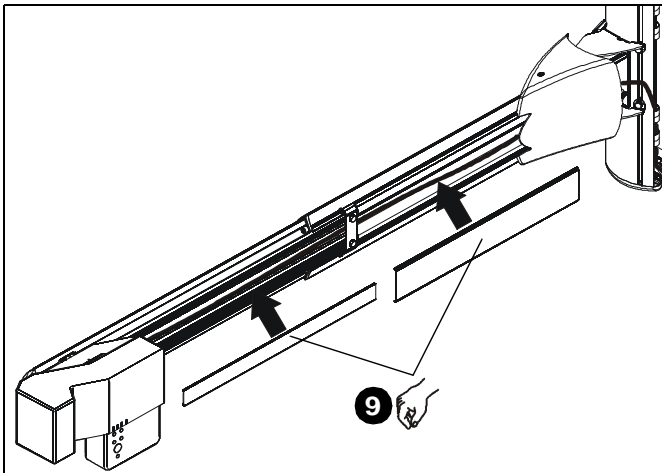

Figure 27
9. Replace removed cable management covers (if necessary). Insert one side of cover into groove and press down firmly on the cover on the other side until it snaps into the other groove. (See Figure 27)